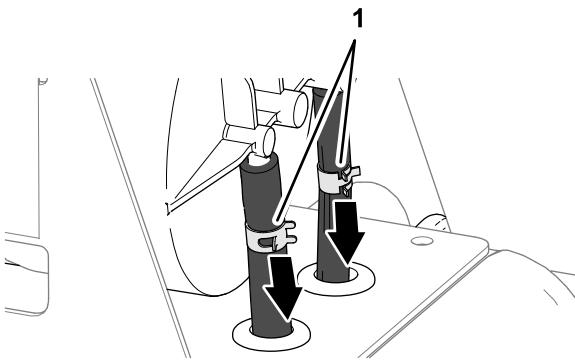

Figure 118
3. Loosen the 2 hose clamps that secure the hoses to the fittings of the carbon canister (Figure 118).